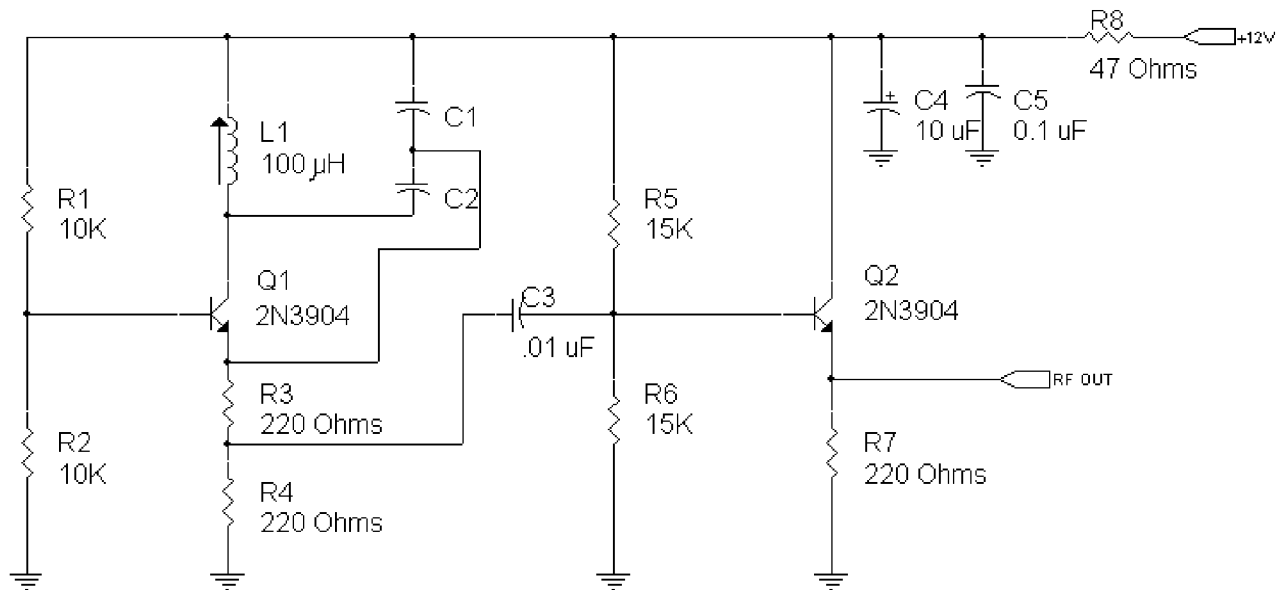

Figure 1 Oscillator and Buffer Amplifier
In the circuit of figure 1, Q₁ is configured as a Colpitts oscillator. L₁ and the series combination of C₁ and C₂ set the operating frequency and control the amount of positive feedback. R₁, R₂, R₃, and R₄ serve to provide DC bias to Q₁.
1. Build the circuit of Figure 1. Compute the value for C_1 and C_2 assuming that $F_c=750$ KHz. (C_1 and C_2 should be equal values).